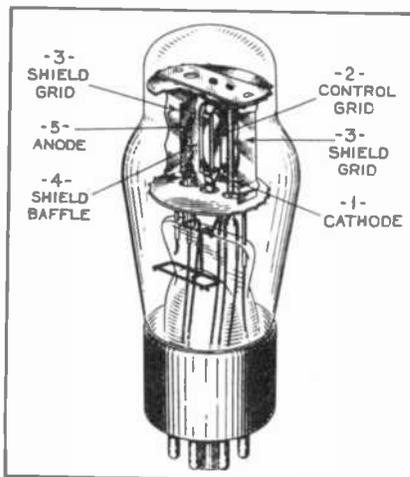

Fig. 5. In the RCA Type 2050 thyatron a shield grid which completely encloses the other elements is employed.
impedance circuits, thereby gaining the advantage of greater effective sensitivity, thyratrons have been developed in which a shield grid is included. Such a tube is shown in Fig. 5—the RCA-2050 (and 2051). Here the shield grid (3) completely incloses the other elements and also isolates the anode (5) from the cathode (1) and grid (2) by virtue of a partition (4) in which there is a narrow aperture. The grid takes the form of a looped ribbon, the inner dimensions of which correspond with the aperture in the shield grid partition. The electron path from cathode to anode is through these aligned apertures.